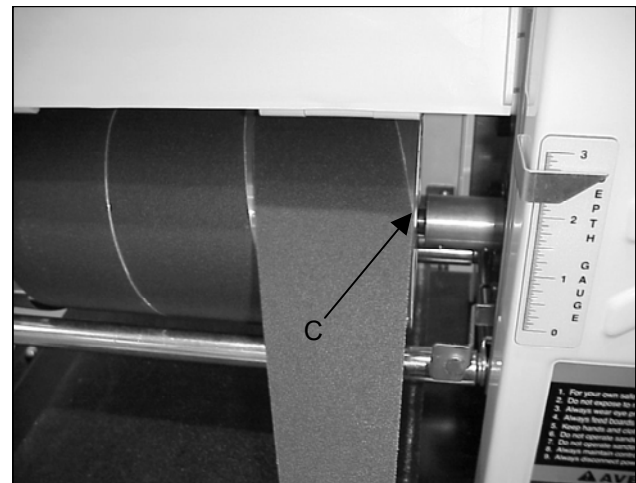

Figure 11
6. Mark the trailing end of the strip where it crosses the inboard end of drum (Figure 11, Item C).